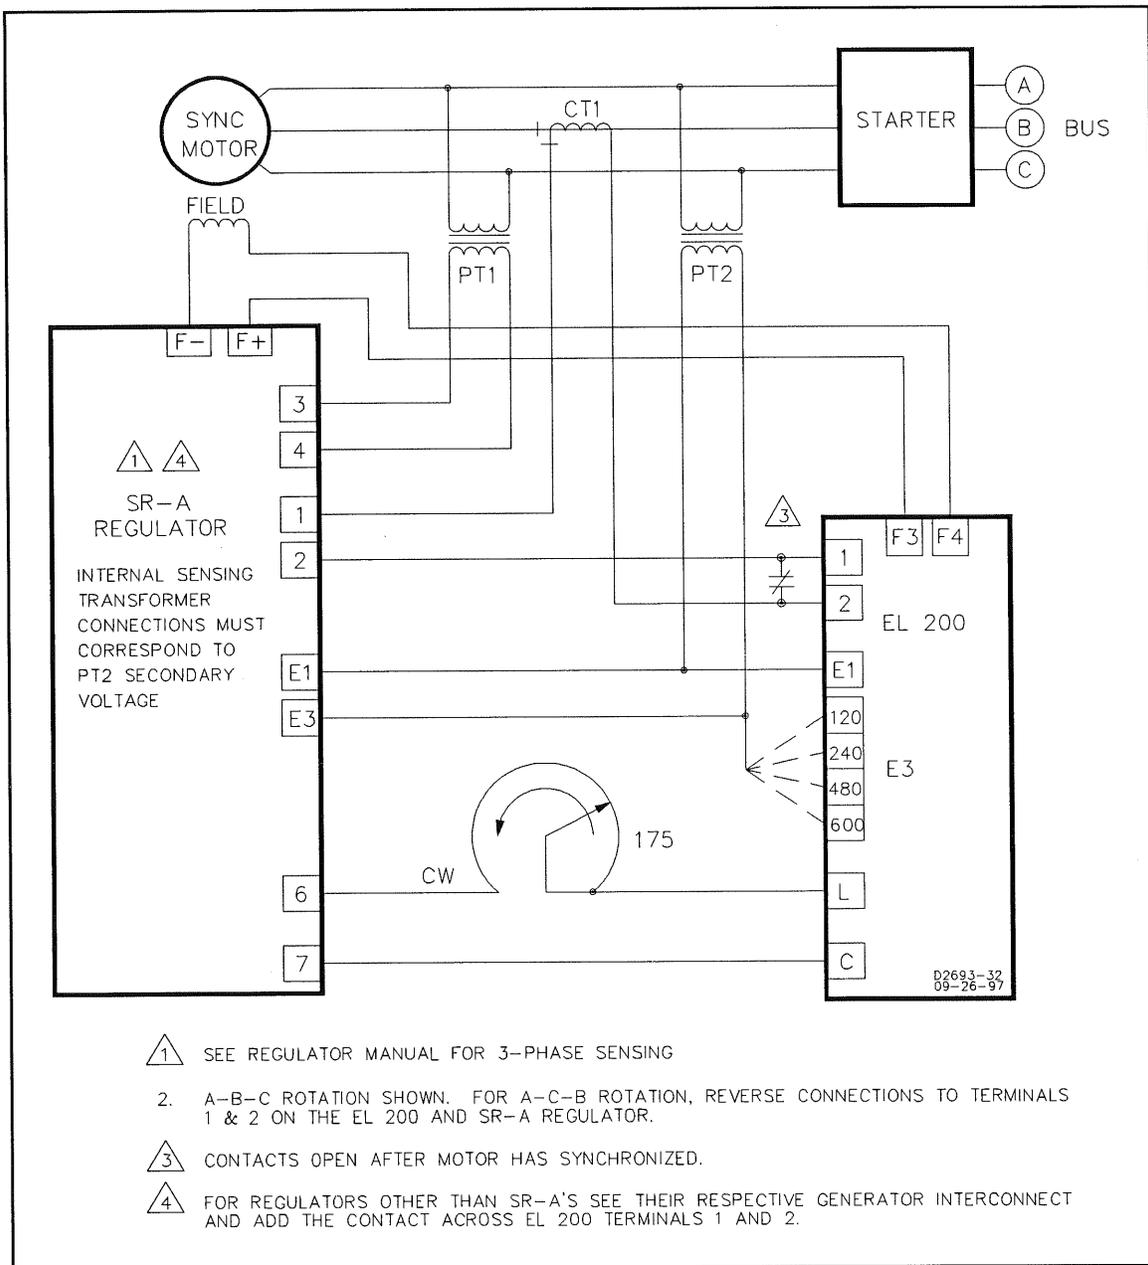

Figure 4-13. EL 200 and Motor Operation Interconnection Diagram.
- (8) This concludes the calibration.
b. Operation (Refer to Figure 4-13). Operation can now be made using the interconnection shown in Figure 4-13. As before, the contacts across the EL 200 Terminals 1 and 2 disable the minimum excitation limit during motor starting. This prevents the possibility of both a minimum and maximum limit condition occurring during motor start (inrush current and maximum field current occurring simultaneously). The limiter will still react to and limit a maximum excitation condition during motor start. Once the motor has synchronized, the contact across the line current input (Terminals 1 and 2) opens and the limiter will now react to both maximum and minimum excitation conditions.